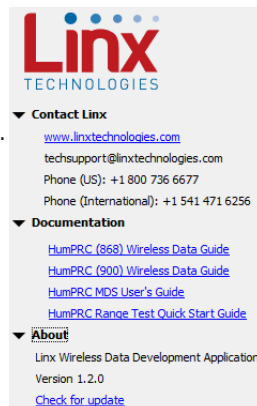

Figure 19: Additional Information
1. Clicking the Contact Linx, Documentation and About labels on the left side expands them to show additional information and links to the latest documentation. This is shown in Figure 19.